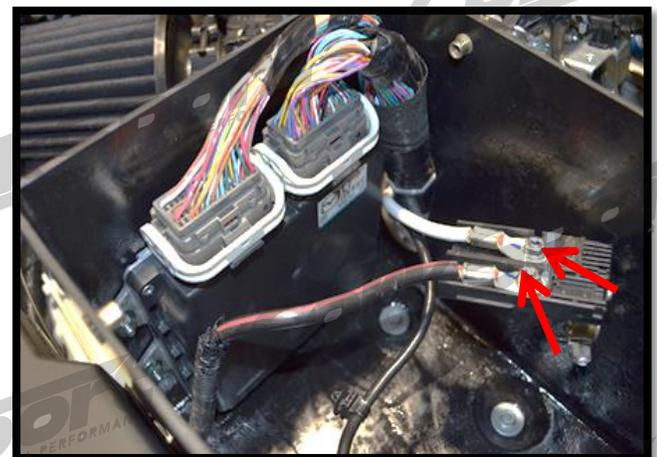

Figure 3c
- e) Place the ECU in the front of the box (as shown in **Figure 3c**), and line up the four mounting holes. Use the four 10mm bolts provided with the box and the four factory 10mm nuts that held the ECU to the factory box.
- g) Plug the ECU wiring harness connectors into the ECU, and lock them into place. (**Figure 3c**)
- e) Place the ECU in the front of the box (as shown in Figure 3c), and line up the four mounting holes. Use the four 10mm bolts provided with the box and the four factory 10mm nuts that held the ECU to the factory box.
- g) Plug the ECU wiring harness connectors into the ECU, and lock them into place. You will hear them “click” into place when done correctly. (Figure 3c)